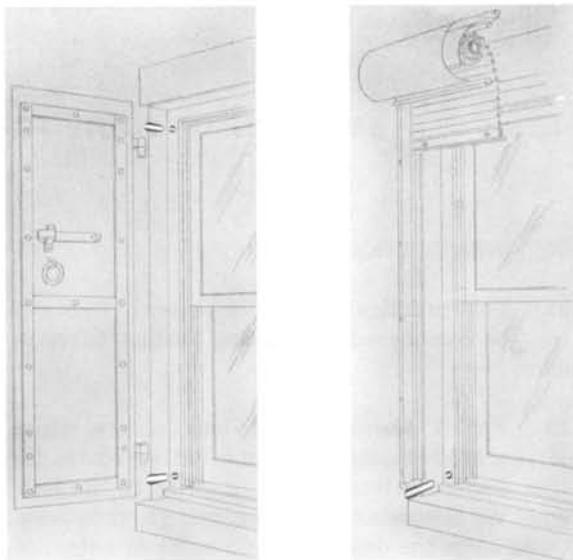

Fig. 3 – Entrance at Shutter of Fire Screen
- Cut slot in seam of brick as shown in Fig. 3. Be sure slot is deep enough so wire is cleared when shutter or screen is operated.